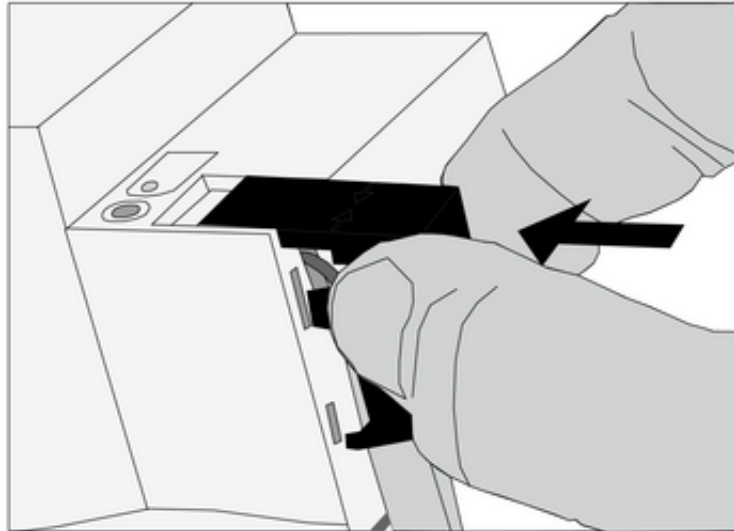

Figure 7: Installing the cover
- Install cover on top of the bus terminal so that it snaps into place (figure 7).